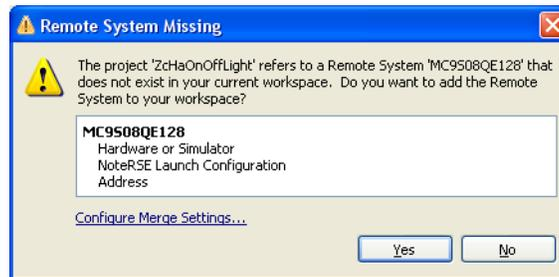

Figure 3-21. Remote System Missing Warning
8. The first time you import an MC1320x-QE128-EVB project into the current workspace the Remote System Missing window opens and displays a warning as shown in Figure 3-21.